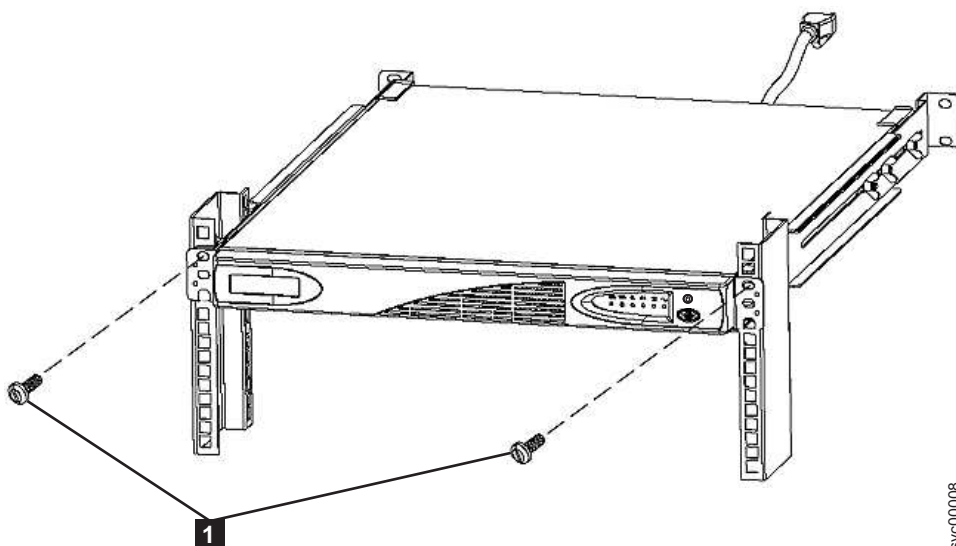

Figure 341. Mounting screws for the 2145 UPS-1U
9. At the front of the 2145 UPS-1U, unscrew the two mounting screws **1**, as shown in Figure 341 on page 412.